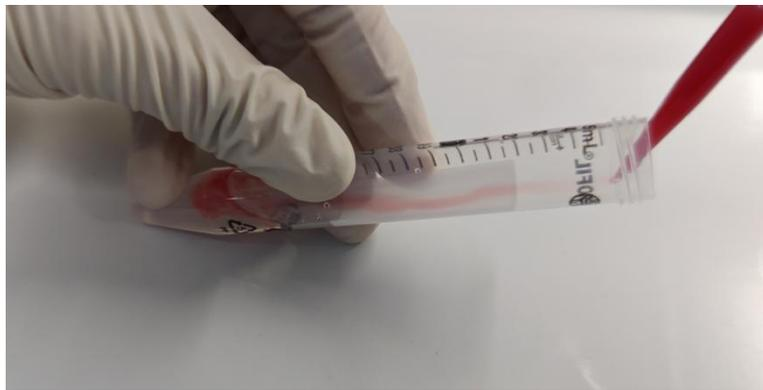
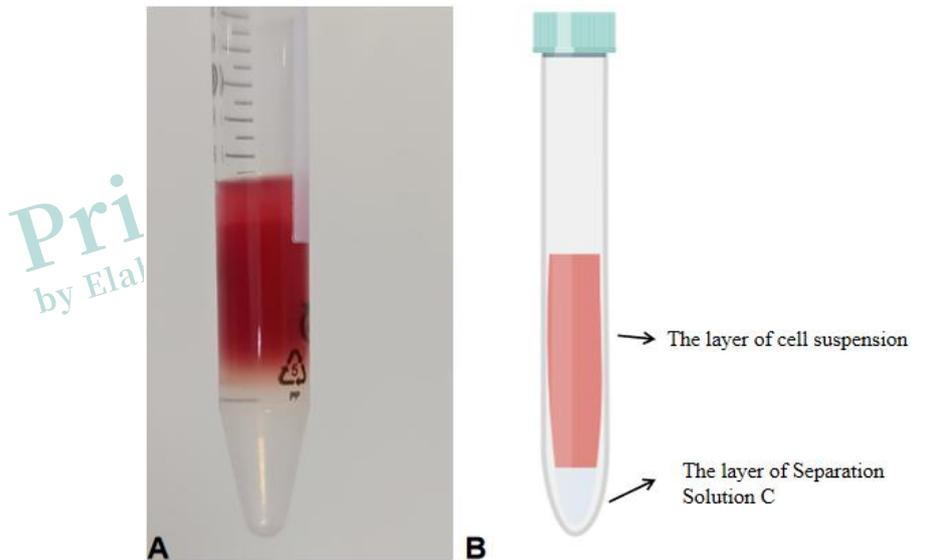

Figure 2. Demonstration of Layered Operation of Cell Suspension and Separation solution
Figure 3. Reference diagram for liquid level stratification
- (3) Resuspend the cell pellet in a 50 mL centrifuge tube using 6 mL of **Special Separation Solution A For Mouse Liver Sinusoidal Endothelial Cells**. Centrifuge at 900 g for 15 minutes and discard the supernatant (which contains liver stellate cells, a small amount of sinusoidal endothelial cells, Kupffer cells, hepatocytes, etc.) retaining the precipitate.
- (4) Resuspend the precipitate obtained from the 50 mL centrifuge tube in the previous step using 6 mL of **Special Separation Solution B For Mouse Liver Sinusoidal Endothelial Cells**. Take a new sterile 15 mL centrifuge tube and add 3 mL of **Special Separation Solution C For Mouse Liver Sinusoidal Endothelial Cells**. Use a 1 mL pipette to collect the cell suspension from the 15 mL centrifuge tube, tilt the tube with the pipette tip against the wall of the tube, and gently blow out the cell suspension along the tube wall to slowly flow into the liquid surface above **Special Separation Solution C For Mouse Liver Sinusoidal Endothelial Cells** (as shown in Figure 2), form two layers of liquid (as shown in Figure 3).